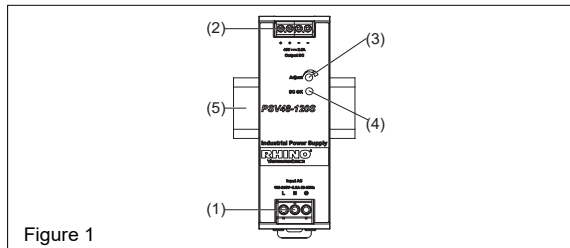
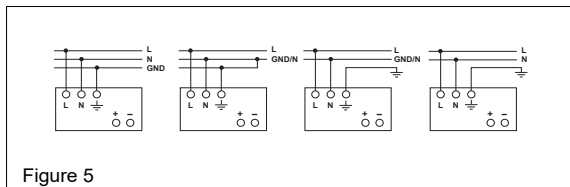

Figure 1
Figure 5
2. Device description (Fig. 1)
5.1. Input connection (Fig. 1, Fig. 5)
Use L, N and GND connections of input terminal connector (see Fig. 1 (1)) to establish the 100-240 VAC connection. Typical connection methods are shown in Figure 5.
5.2. Output connection (Fig. 1 (2))
Use the "+" and "-" screw connections to establish the 48 VDC connection. The output provides 48 VDC. The output voltage can be adjusted from 44 to 56 VDC on the potentiometer. The green LED DC OK displays correct function of the output (Fig. 1 (4)). The device has a short circuit and overload protection and an overvoltage protection limited to 56-67.2 VDC.